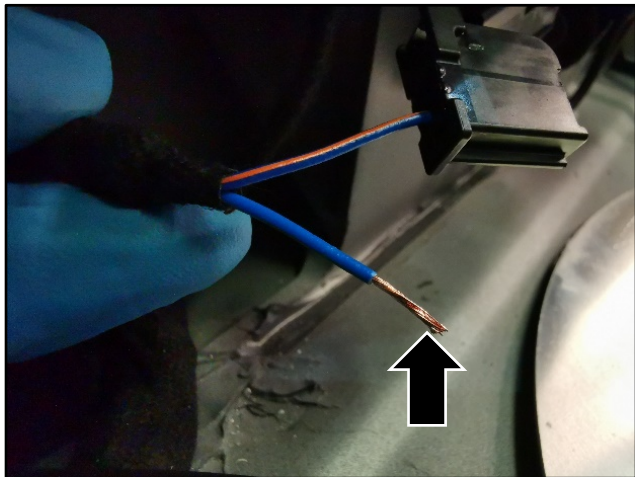

Figure 6
8. Remove approximately 5-7mm of the insulation at the end of the wire (refer to Figure 6).